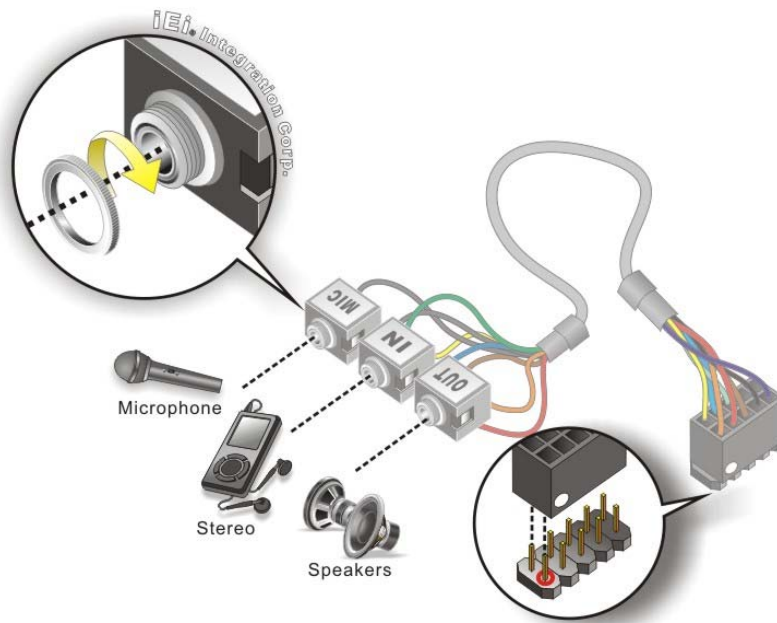

Figure 4-13: Audio Kit Cable Connection
Step 2: Align pin 1. Align pin 1 on the on-board connector with pin 1 on the audio kit connector. Pin 1 on the audio kit connector is indicated with a white dot. See **Figure 4-13**.